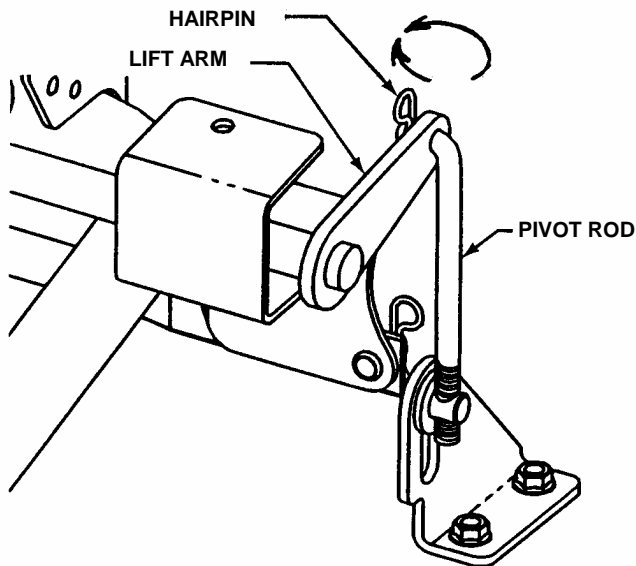

FIGURE 4.5
5. Rotate pivot rod up or down to achieve the proper levelness. See Figure 4.5.
6. Reinstall both hair pins into pivot rods. See Figure 4.5.